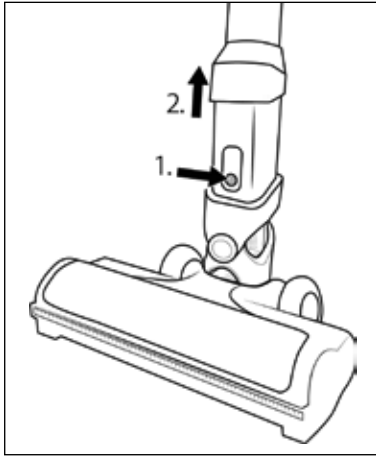

Fig. 11
- ◆ To remove the floor brush ① from the suction pipe ③, hold down the floor brush release button ② and pull the suction pipe ③ off the floor brush ① (see Fig. 11).